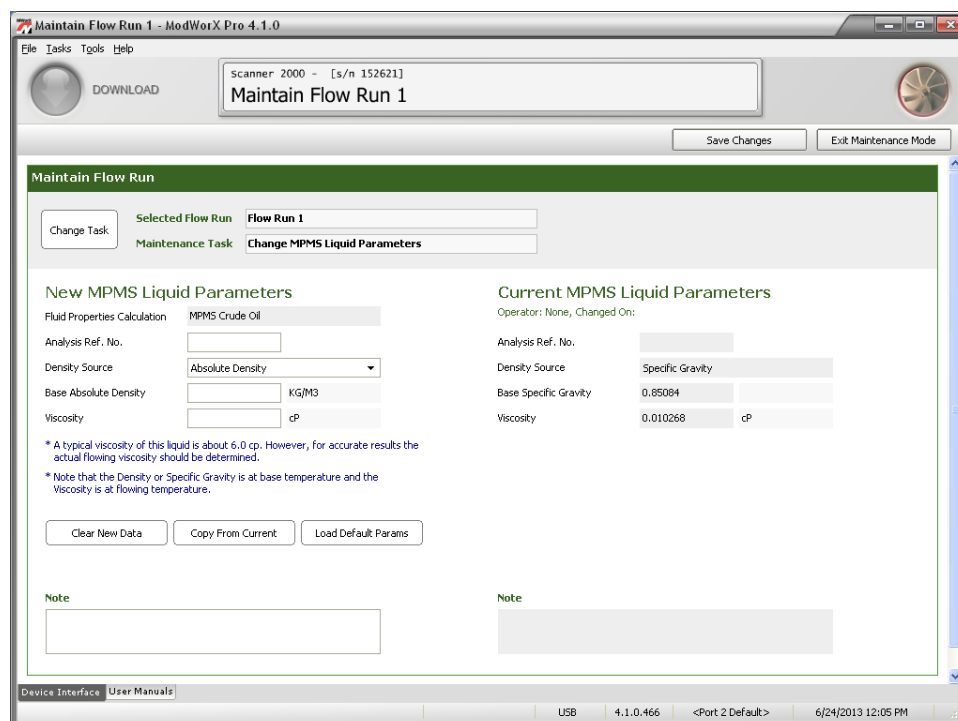

Figure 9.13
- b. Click **OK** to save the settings and return to the Maintain Flow Run screen (Figure 9.13, page 139).